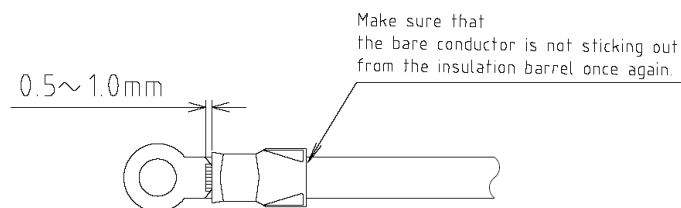

FIGURE 2-21
- f. Refer to **Figure 2-21**. Make sure that the bare conductor is exposed about 0.5 ~ 1.0mm at the base of the terminal adjacent to the insulation barrel.